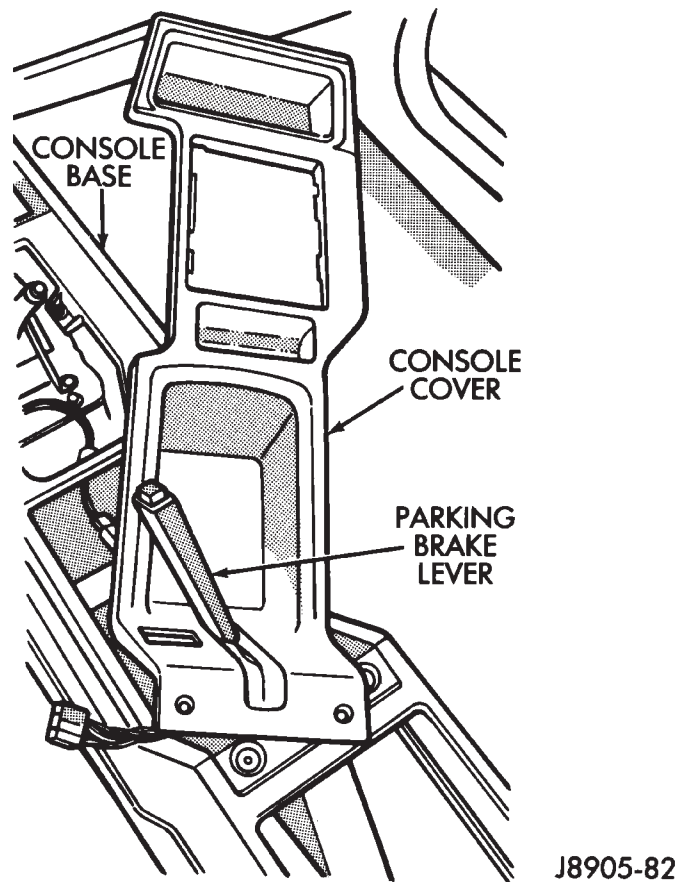
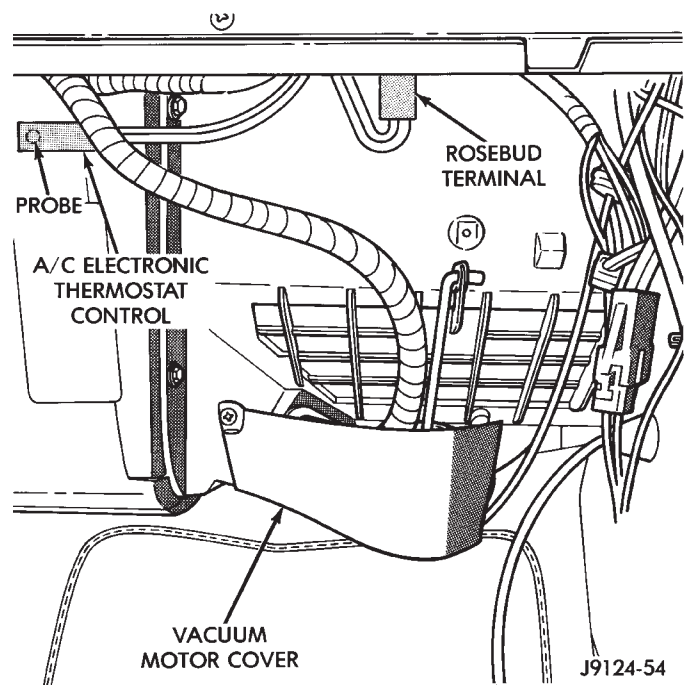

Fig. 33 Console Cover and Base
Fig. 34 Thermostat Electronic Cycling Switch and Probe
- (e) Remove console cover from base (Fig. 33).
- (f) Remove console base (Fig. 33).
- (3) Remove the lower instrument panel.
- (4) Pull the rosebud terminal out of the housing (Fig. 34).
- (5) Disconnect the electrical connection.
- (6) Remove the wires from the retaining clip.
(7) Carefully remove the thermostat probe/thermostat electronic cycling switch from the tube guide hole (Fig. 34).
- (1) Carefully insert the thermostat probe into the tube guide hole until the thermostat electronic cycling switch body butts up against the housing.
- (2) Connect the rosebud terminal (Fig. 34).
- (3) Snap the terminal into the hole in the housing.
- (4) Install the wires into the retaining clip.
- (5) Reverse the removal procedures for the remainder of the installation.